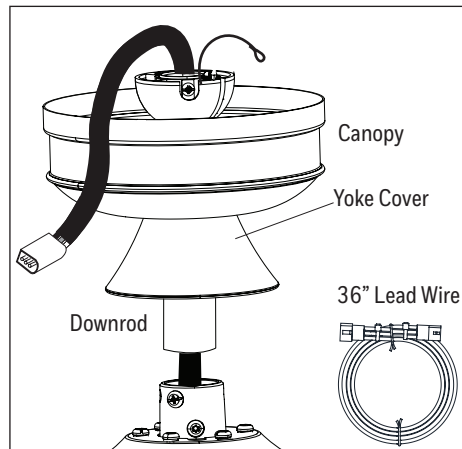

Figure 3.2
2. Insert the downrod through the canopy and yoke cover. Feed the wire and braided cable from the fan through the downrod. Depending on the length of downrod you use, you may need to use the 36-inch lead wire to accommodate a 36 or 48-inch downrod (sold separately). When necessary, connect the 3-pin connector extending from the center of the downrod to one end of the 36-inch lead wire. **Note:** The downrod included with this fan will not utilize the 36-inch lead wire (Figure 3.2).